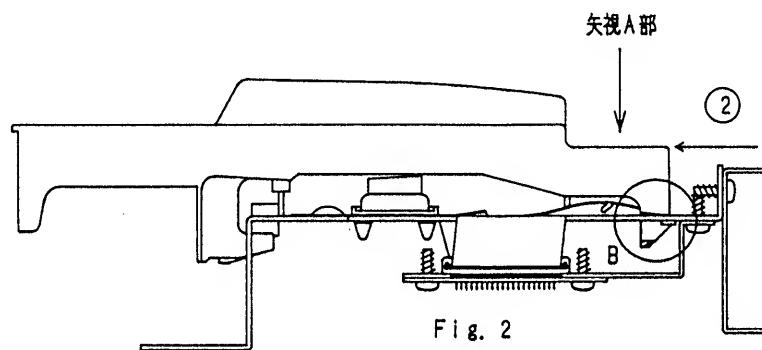
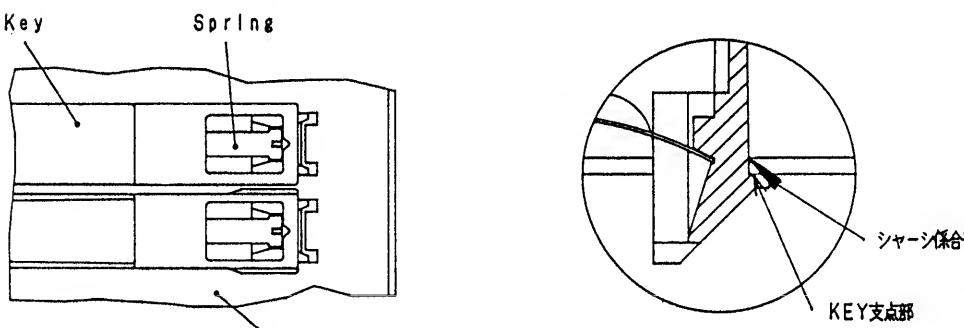

Fig. 2
Fig. 3
2. Referring to Fig.2, pulling the key in the direction of arrow ②, disengage the key fulcrum from the chassis. See Fig.3 and 4 for disengaged status.